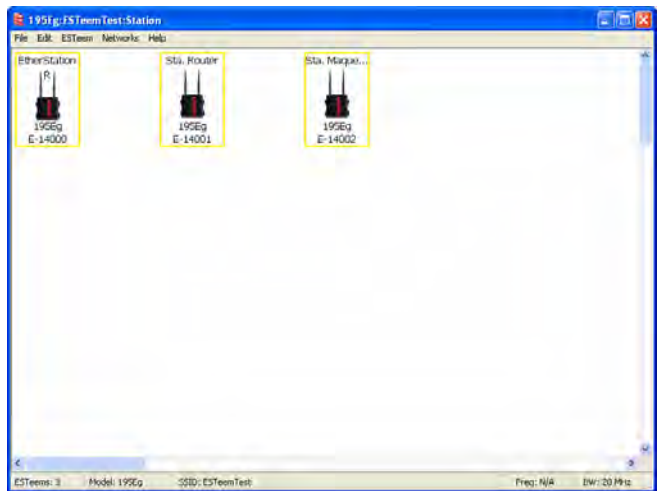

Figure 24: Station Mode Example Modems
2. Add the three mobile client modems to the ENC Utility configuration page as instructed above and set the Modem ID to match the three modes of operation. Your configuration will appear as in Figure 24.
**Technical Tip:** The ESTeem 210's in Mobile Client modes do not have a specific frequency of operation as can be seen in Figure 24.